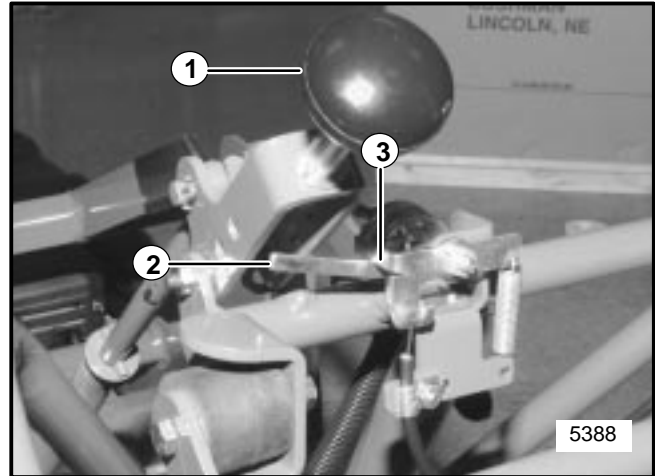

FIGURE 22
3. Adjust cable until the pivot arm contacts the arm extending from the operator presence switch (see Figure 22).